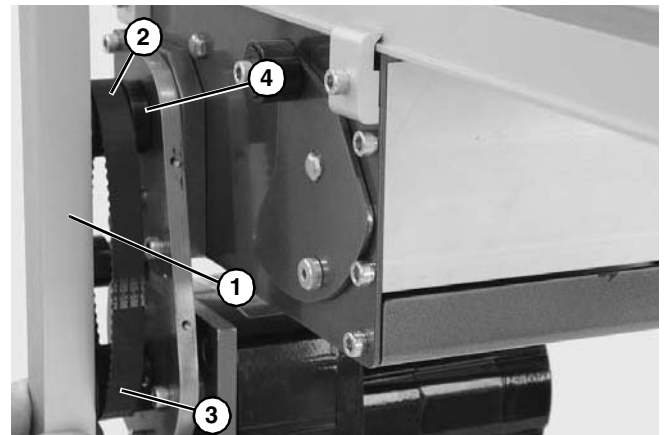

Figure 8
- Using a straight edge (**Figure 8, item 1**), align driven pulley (**Figure 8, item 2**) with drive pulley (**Figure 8, item 3**). Tighten driven pulley set screws (**Figure 8, item 4**).